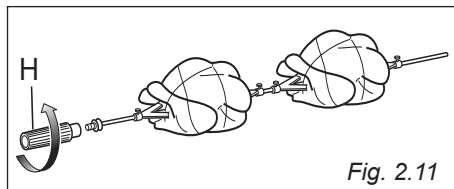

Fig. 2.11
- Put the meat to be cooked onto the rod, being careful to secure it in the center with the special forks (fig. 2.11).
- Remove the grip “H” by turning it to the left (fig. 2.11).